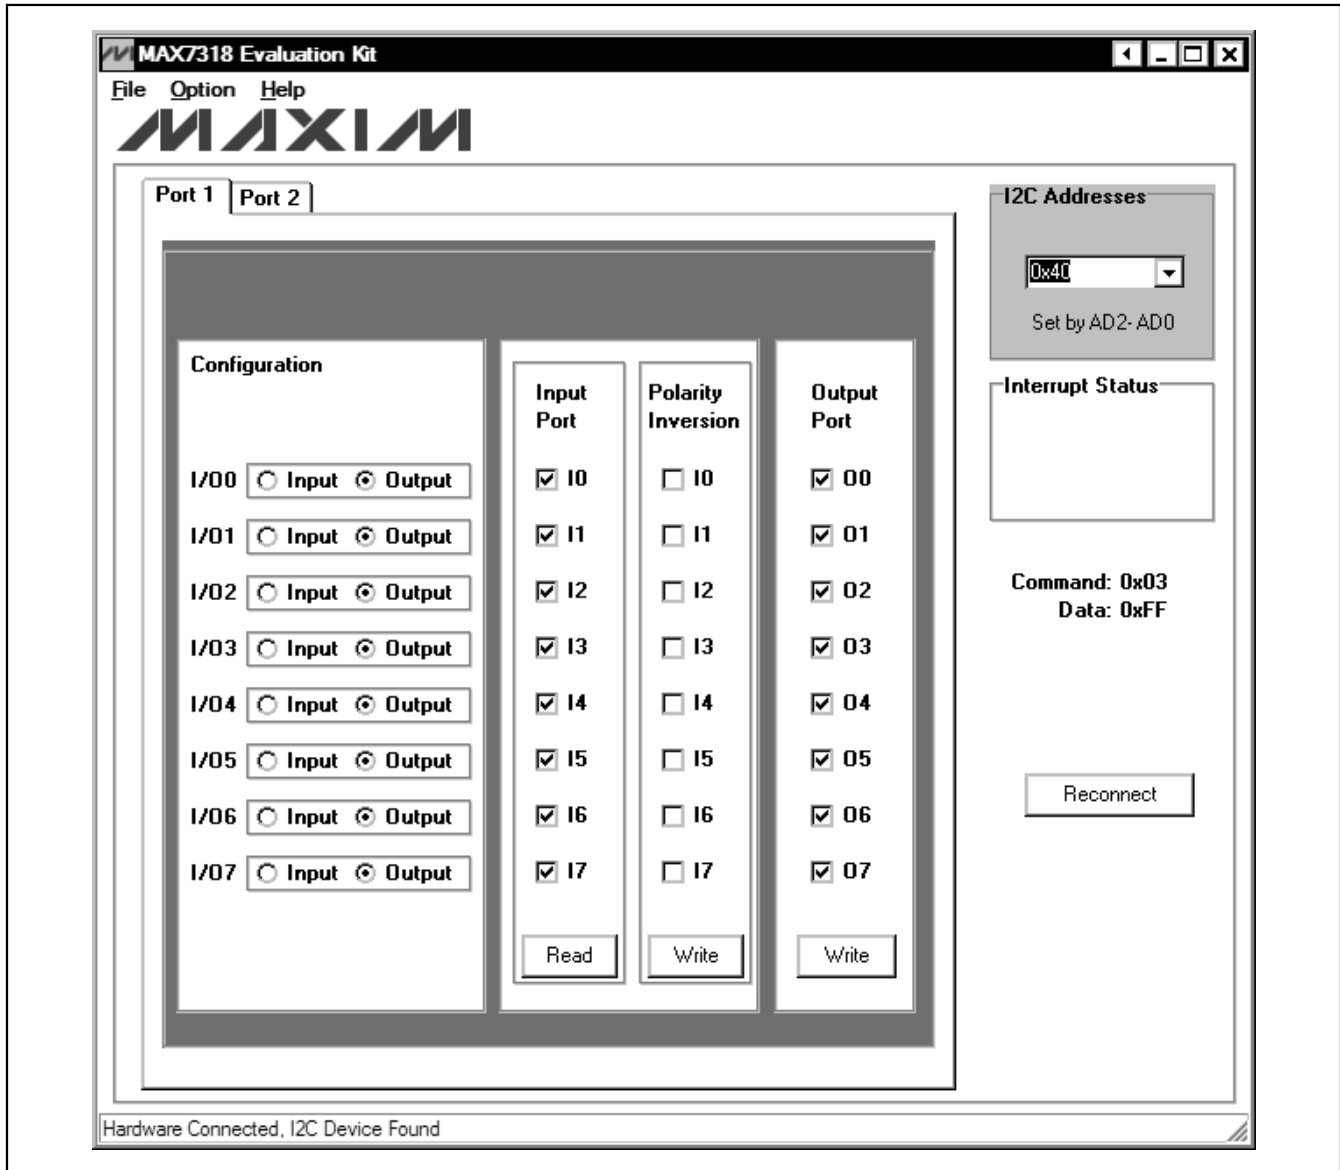

Figure 1. MAX7318 EV Kit Software Main Window (Port 1 Tab)
- 6) Start the MAX7318 EV kit software by opening its icon in the **Start | Programs** menu. The EV kit software main window appears, as shown in Figure 1.
To start the MAX7318 EV kit software, double-click on the MAX7318 EV kit icon that is created during installation. The GUI main window appears, as shown in Figure 1.
The **Port 1** tab sheet shown in Figure 1 controls all of the registers for **I/O0–I/O7** of the MAX7318. In the **Configuration** group box, the user can set the I/O port